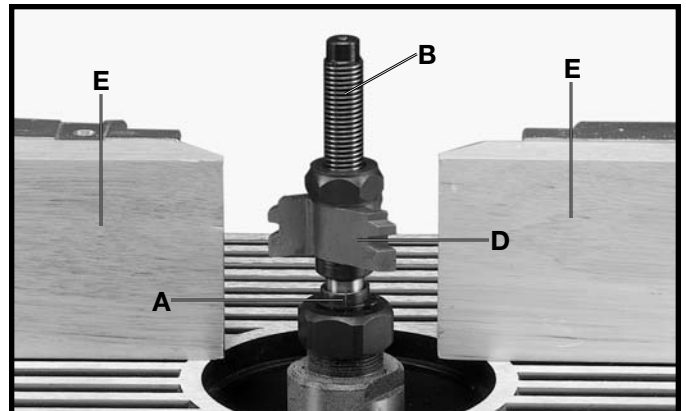

Fig. 35
5. Fig. 35, illustrates the shaper spindle (B) and shaper cutter (D) installed in the collet (A). After installing shaper cutter, fences (E) Fig. 35, should be moved as close as possible to the cutter (D) without touching. **IMPORTANT:** Always use table insert whenever possible.